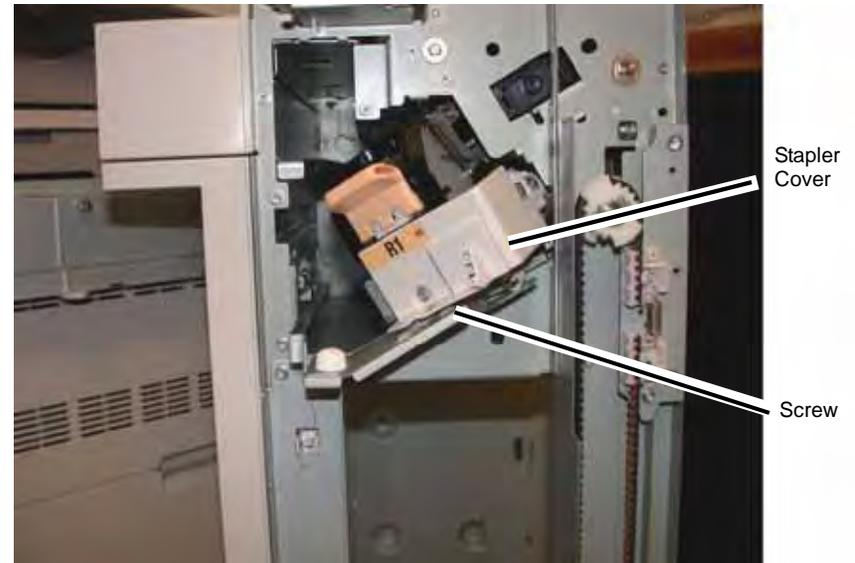

Figure 1 Removing the Stapler Cover
4. Remove the Stapler Cover (Figure 1).